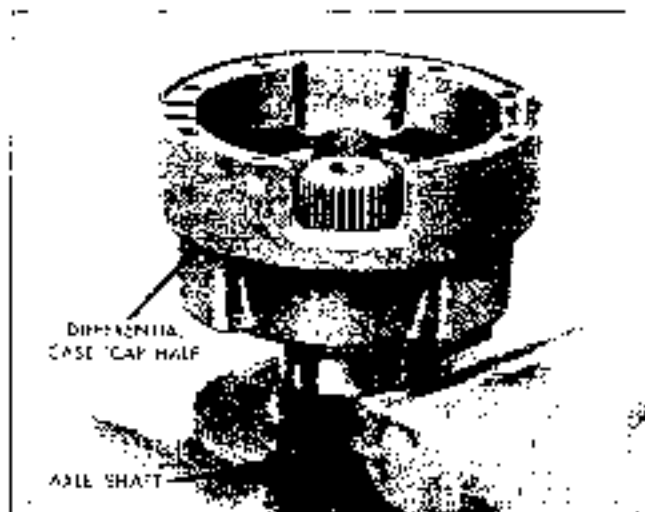

Fig. 4B-11 Axle Shaft on Cap Half of Case - Two or Four Pinion Tempest and Firebird
1. Clamp one axle shaft in vise, allowing three inches to extend above vise jaws. Then place cap half of differential case over extended axle shaft, with interior of case facing up (Fig. 4B-11).